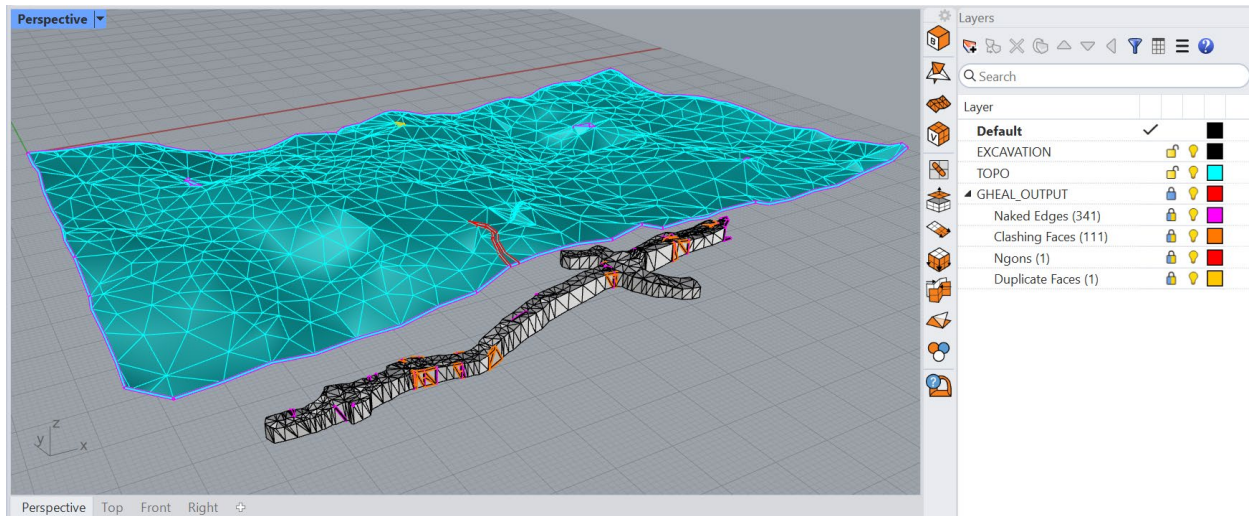

Figure 66: Displaying errors with GHeal.
8. To check the meshes for various issues, type **_GHeal**, or click the  icon in the *Griddle* toolbar, and select *ShowErrors* (Figure 66). The layer “GHEAL_OUTPUT” will appear, with sublayers containing curves outlining the corresponding issues. In this case, the layers contain many issues.